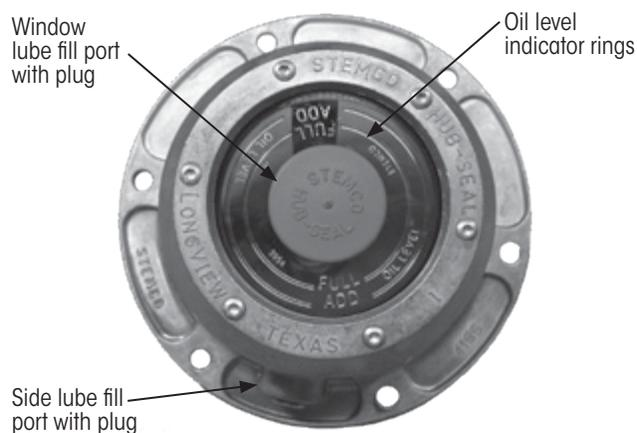

Figure 20: Sample oil hubcap with oil level indicator rings
NOTE: Not all hubs have a fill port. In this case, oil can only be added through the hubcap side or window lube fill port (Figure 20).
2. Fill wheel-end with oil until the oil level is above the "ADD" and to the "FULL" indicator ring of the hubcap window (Figure 20).
IMPORTANT: The oil level should be maintained to the hubcap full indicator ring (Figure 20). Adding oil above the hubcap full indicator ring should be avoided.